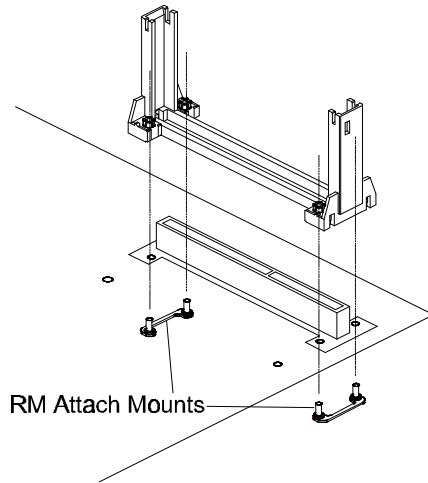
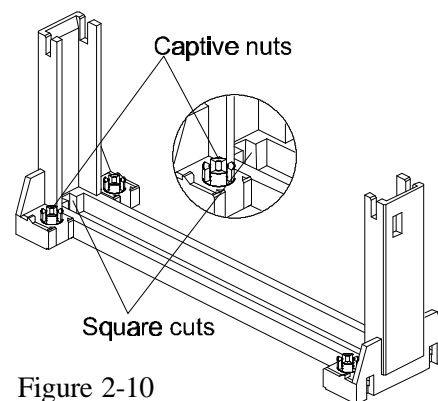

Figure 2-9
Figure 2-10
2. Install two Retention Mechanism Attach Mounts (RMAM) with Bolt/Bridge assemblies inserted up through the bottom of the mainboard. (Notice the RMAM's bridge orientation as Figure 2-9)
3. Insert the Retention Mechanism (RM) around the Slot 1. Be sure the Square Cut Mark of RM (Refer to Figure 2-10) have the same orientation of Slot 1 pin 1.(Refer to Figure 2-9)
4. Screw the four captive nuts (Refer to Figure 2-10) on the RM by a screw drive to secure RM to two RMAMs.